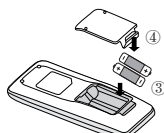

Fig.2
3. Place two 7# (AAA 1.5V) dry batteries, and make sure the position of " + " polar and " - " polar is correct (as shown in Fig 2 ③).
4. Reinstall the cover (as shown in Fig 2 ④).